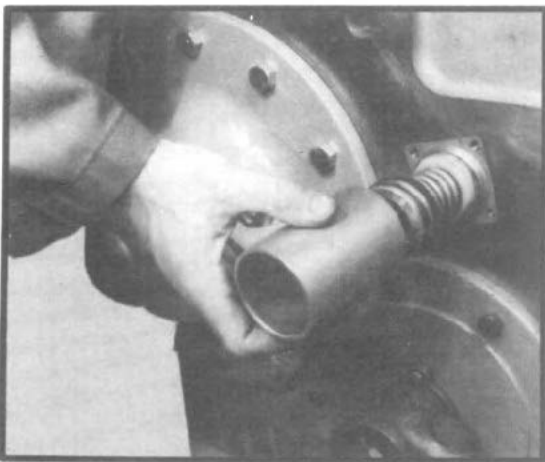

Fig. 20
8. Remove shift cylinder tube from the adapter in the transfer case, exposing piston. (See fig. 20.)